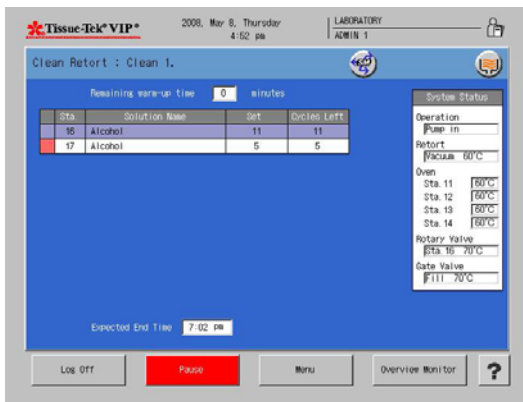

Figure 4-N
2. Touch **Detailed Monitor** to switch the display to the Clean Retort Detailed Monitor Screen (Figure 4-N).